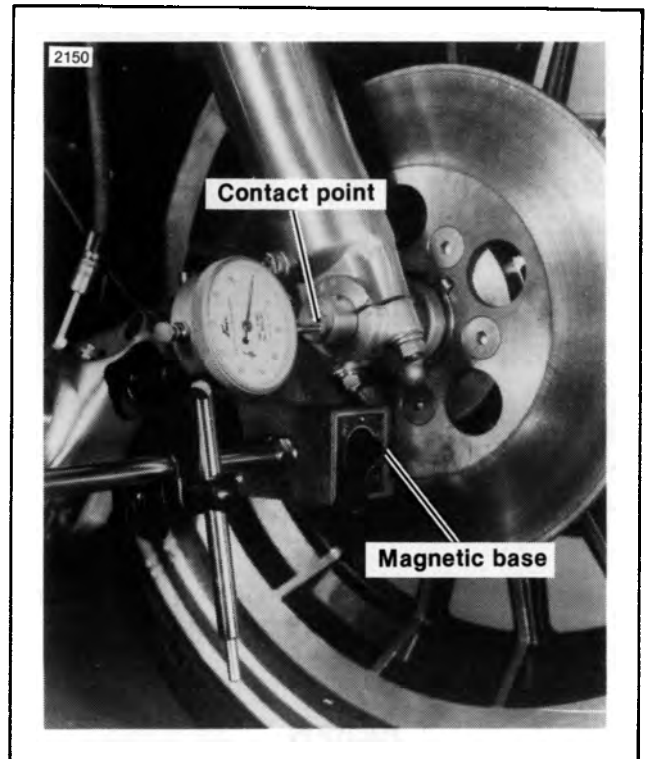

Figure 2-3. Checking Front Wheel End Play — FLT Models
4. See Figure 2-3. Mount a magnetic base dial indicator to the brake disc with contact point on end of axle. Move wheel back and forth on axle to check end play.